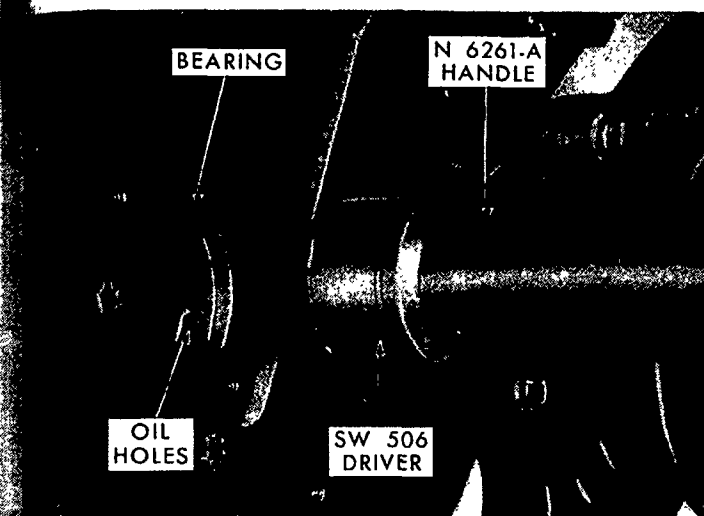

Figure 77
1. Position Driver No. SW 506 against the camshaft bearing to be removed and attach Handle No. N 6261-A, to the Driver, Figure 77.